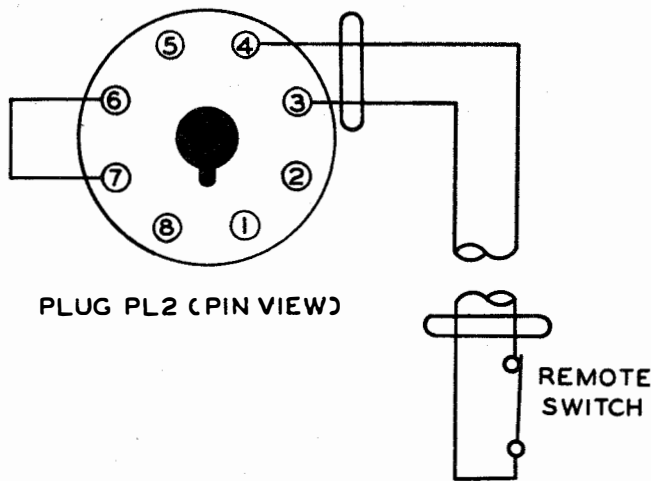

Figure 4-3. Radio Receiving Equipment Navy Model RBK-16, Wiring for Remote Control of Rec.-Send Operation.
Radio Receiving Equipment Navy Model RBK-16 is a three-band superheterodyne receiver adapted for use on shipboard or at shore stations. It is designed for the reception of either amplitude-modulated (a - m) or frequency-modulated (f-m) signals in the frequency range of 27.8 to 143 megacycles. It will also receive continuous-wave (c-w) signals by using the beat frequency oscillator (bfo). The frequency range is divided into three overlapping bands to give continuous coverage over the entire frequency range. Standby operation of the receiver can be controlled at some remote point by leaving the REC.-SEND switch in the REC. position and extending the circuit from terminals 3 and 4 of SO1 to a remote switch. Only the operation of turning the receiver plate supply ON and OFF may be accomplished from the remote position. See figure 4-3, and section 3, par. 2g for remote control switch hook-up. Socket SO4 on the rear apron of the chassis is provided with a 600 ohm impedance output (audio) which is used to feed either a loudspeaker or a line terminated in a like impedance. A 500 ohm impedance line (audio) is also available by utilizing the PHONES jack J1 on the front panel. The receiver will deliver 3 watts to the speaker or balanced line with less than 5% distortion. A panoramic adapter receptacle SO2 has been provided on the rear panel of the receiver into which a Panoramic Adapter unit especially designed to be used with this receiver may be connected.
e. REC.-SEND.— The REC.-SEND switch (SW5) is used to silence the receiver when transmitting, or during stand-by. When the REC.-SEND switch is in the SEND position, the high voltage is removed from the receiver circuits, but the filament voltage is still applied to the heaters. Set the switch to REC. position whenever the remote stand-by connection is used. Refer to section 3, par. 2g and figure 4-3 for wiring details for remote stand-by operation.